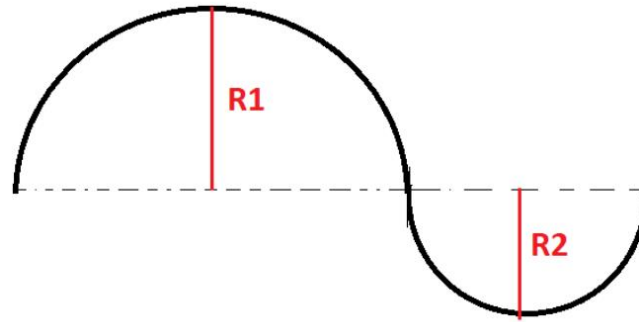

Figure 2. Path to be followed by the robot.
- Observe that, independently of the trajectory, the robot moves by fixing the speeds of the wheels for a given amount of time (as in the “S” shape shown in Figure 2). Taking this into consideration, can the robot move in any kind of trajectory? Consider an ellipse as an example.